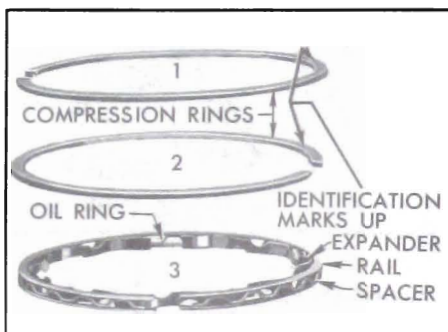

Figure 2-63—V-6 Piston Rings
9. Install V-6 piston rings as shown in Figure 2-63. Position expander ends over piston pin. Install oil ring rail spacer, and oil ring rails. Position gaps in rails "up" on same side of piston as oil spurt hole in connecting rod. Install compression rings in upper two grooves. If a single chrome plated compression ring is used, the chrome ring must be installed in the top groove.